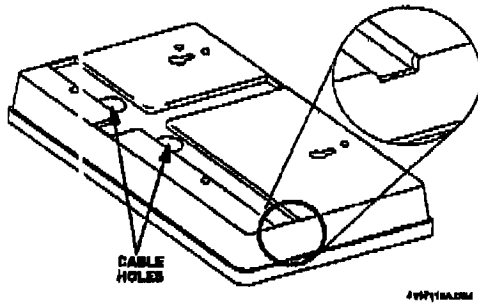

Figure 3. Cable Holes and Channels
- Feed the cables through one of the cable holes in the back box (see Figure 3).